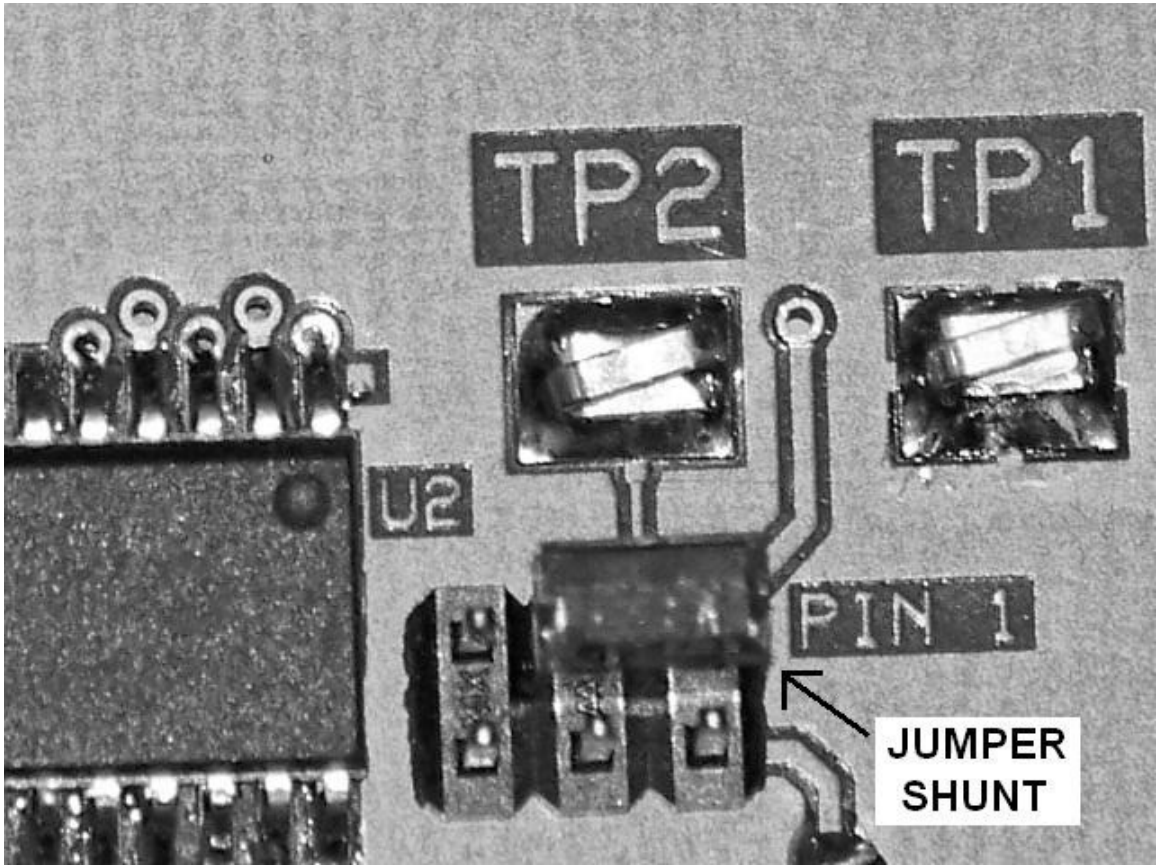

Figure 1
6. Locate the display circuit board located on the inside of the front panel and REMOVE the plastic jumper shunt across pins 1 & 3. See Figure 1 for the location of the jumper shunt.
2. Locate the display circuit board located on the inside of the front panel and REINSTALL the plastic jumper shunt across pins 1 & 3. See Figure 1 for the location of the jumper shunt.